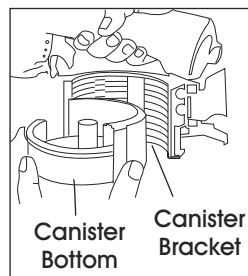

Figure 2
- Check Adjustment:** The nailer must be set for the length of nail to be used. Nails will not feed smoothly if the canister is not correctly adjusted. The canister contains an adjustable nail platform on which the nail coil rests. The nail platform can be moved up and down to four nail settings. To change setting pull up on the post and twist to the correct step. (See Figure 2)